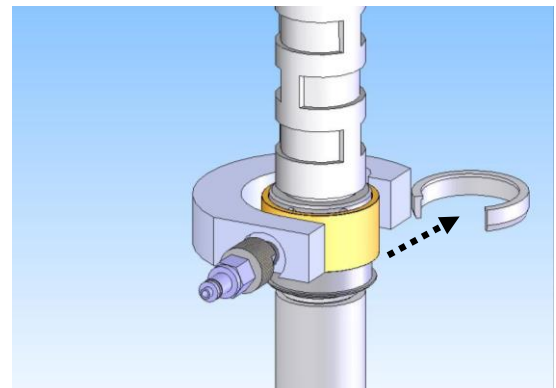

Figure 6: Remove the retaining ring.
- i. Remove the retaining ring at the base of the threaded end seal (Figure 6).